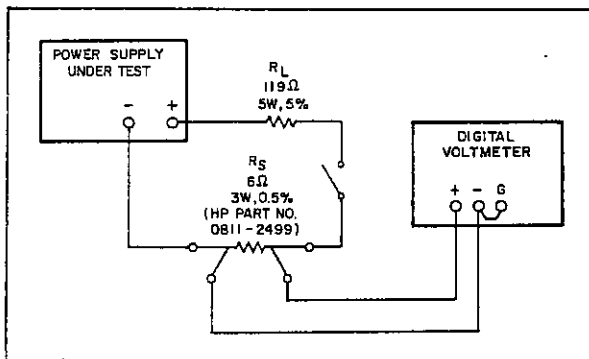

Figure 5-3. Output Current, Test Setup
- Connect the test setup shown in Figure 5-3 to the  $V_1$  supply's + and - output terminals.
- b. Connect test setup shown in Figure 5-3 to the  $V_1$  supply's + and - output terminals. Substitute a short for  $R_L$  and leave load switch open.
- Connect the test circuit of Figure 5-3 to the output of the supply to be adjusted. Substitute a short for RL and leave load circuit switch open.
- Connect the test setup of Figure 5-3 to the V1 supply's + and - output terminals.